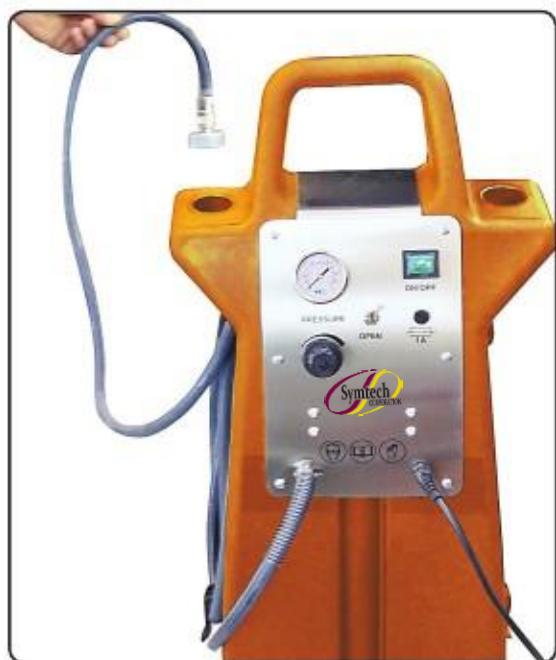

Fig. 5
- 3.2.2. Connect the pressure delivery hose's quick connector to the universal adaptor. (Fig. 5).